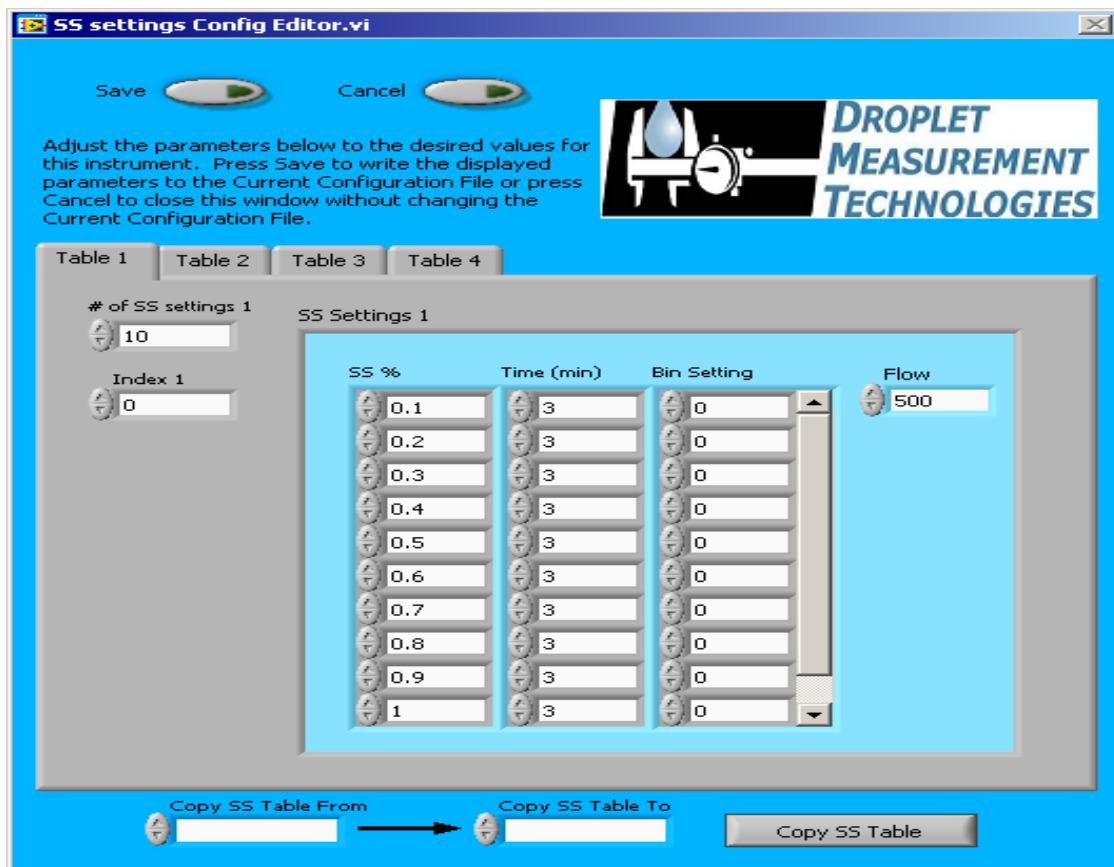

Figure 45: Program for Setting the Supersaturation Tables
The program **CCN SS Settings Config Editor.exe** allows the user to create up to four predefined tables for operating the CCN in a scanning mode with variable supersaturation and time periods. (Users can also enter manual values for SS% and Delta T Set (C); (see section 12.1.3). Figure 45 shows the configuration editor program.